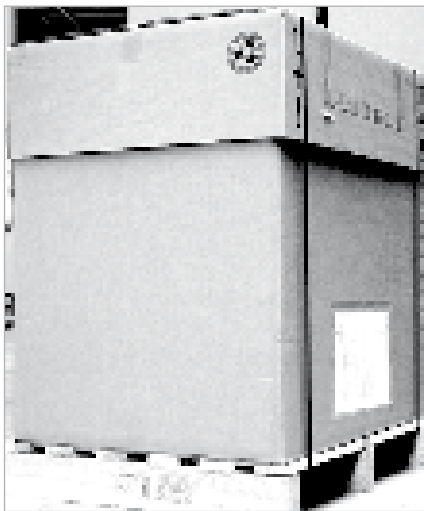

Fig. 7
- in cardboard boxes and delivered on a pallet (Fig. 7),